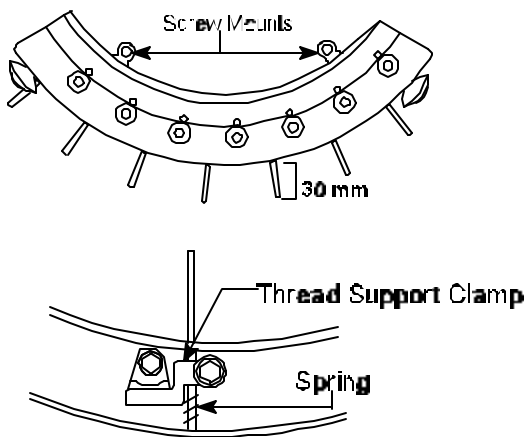

Figure 3
- Carefully **pull** Thread Support Pin out approximately 30 mm enough to clear Turret Assembly. (If pin is pulled out to far, clamp and spring will fall out). See *Figure 3*.